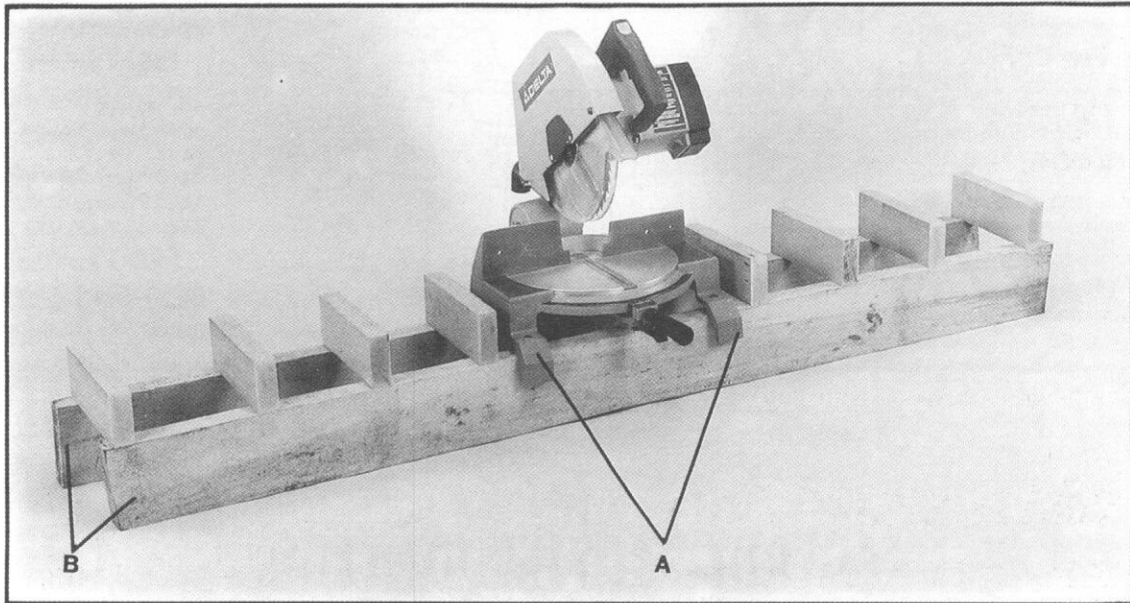
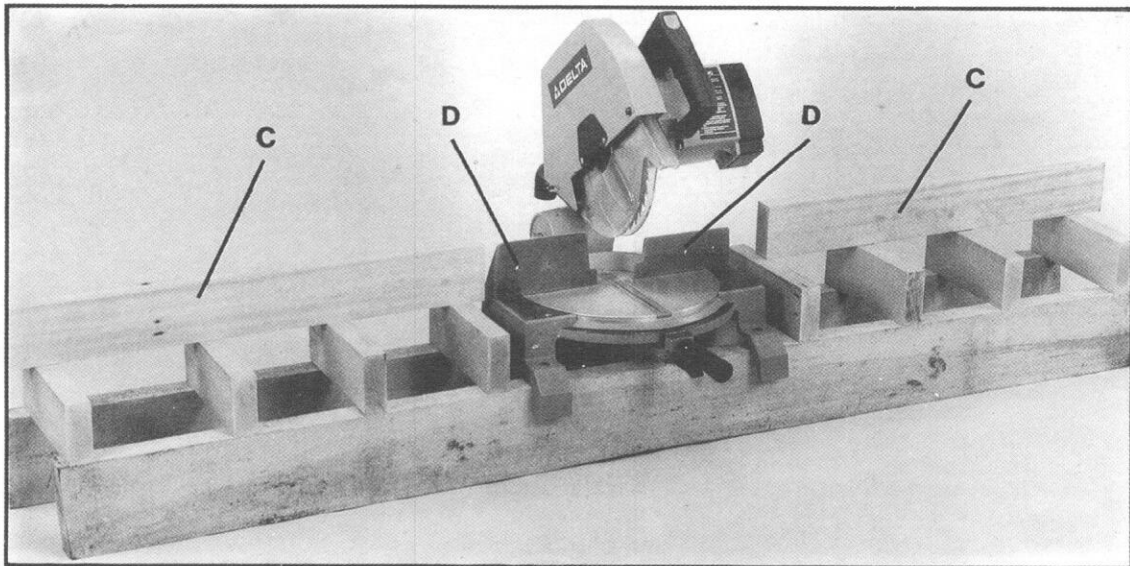

Fig. 64
Fig. 65
One of the unique features of your miter box is the ease with which you can construct work supports. Fig. 64 illustrates the miter box mounted to two standard 2x6's (B) using four screws through the four holes in the mounting legs (A). The length of the 2x6's (B) can vary depending on your preference. The distance from the top of the 2x6's to the miter box table will be 3-1/2". This enables you to nail standard 2x4's to the 2x6's, as shown in Fig. 64. The top of the 2x4's will then be in alignment with the table of the miter box. If desired, you can fasten fence extensions (C) Fig. 65, to the work supports making sure they are in alignment with the fences (D) of the miter box.